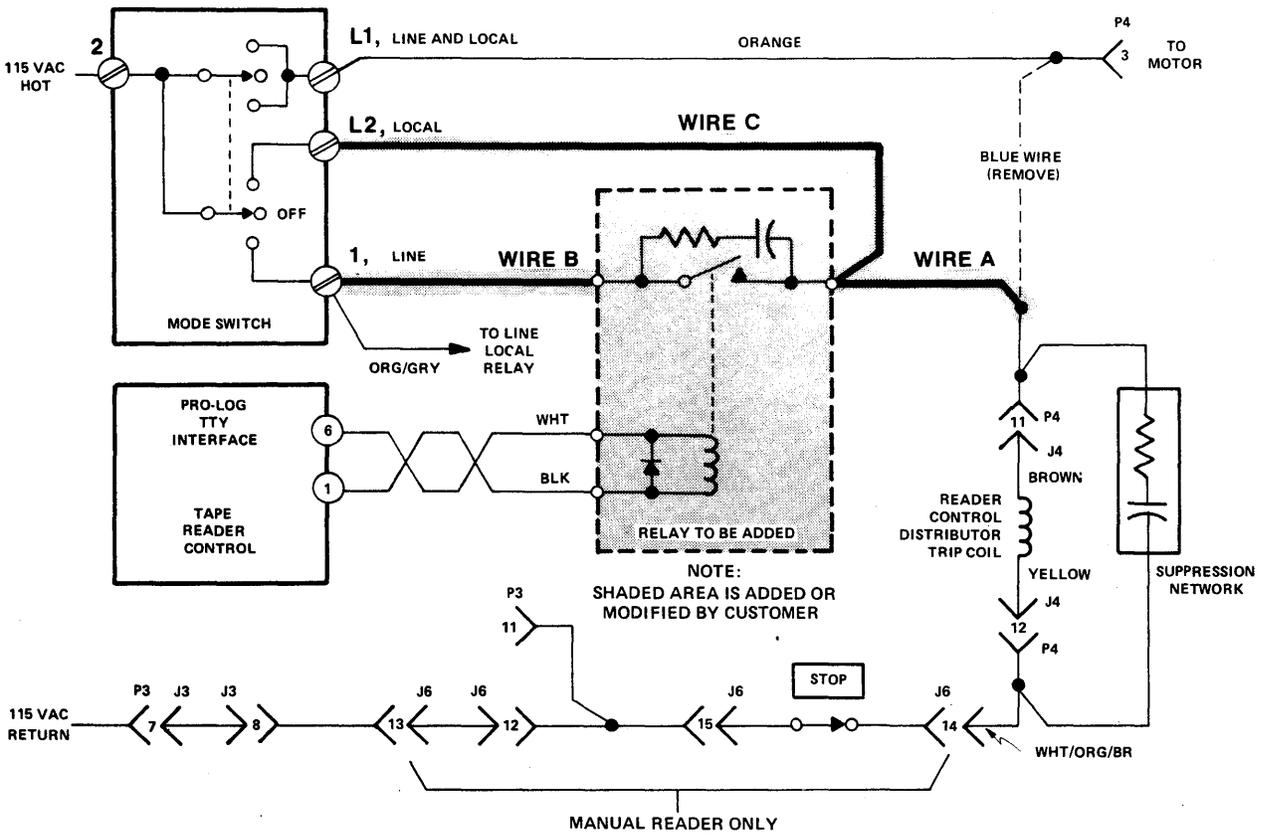

Figure 18-10 TTY Modification (Manual Reader)
The Manual Reader Circuit can be controlled remotely by adding a relay to control the reader trip coil in the Line Mode. Modifying the reader circuit as shown in Figure 18-10 allows normal operation in the Local Mode and remote control in the Line Mode.
- If the wire colors do not agree, do not proceed with this modification unless the connections can be verified to agree with those of Figure 18-10.